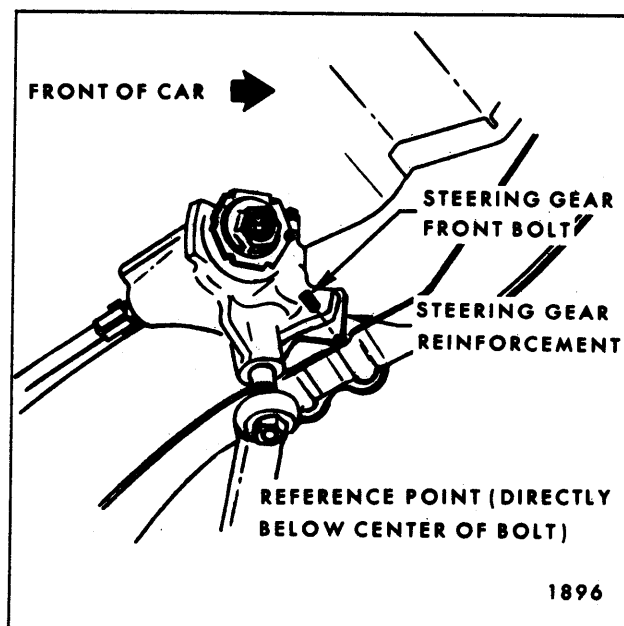
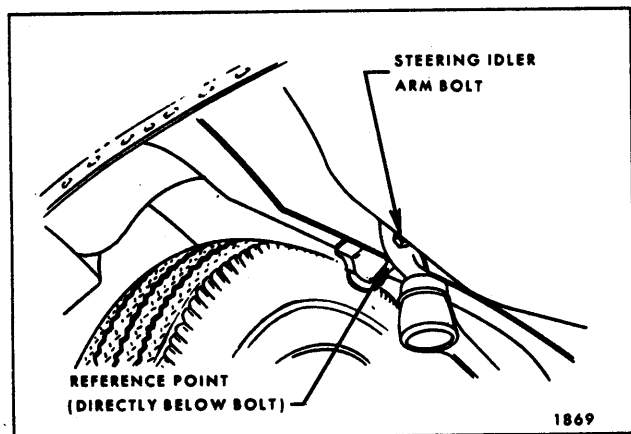

Fig. 3-4—Reference Point at Steering Gear Reinforcement
Fig. 3-5—Reference Point at Steering Idler Arm
Lower inner edge of steering gear reinforcement directly below center of steering gear front attaching bolt hole (Fig. 3-4) and lower inner edge of front compartment right side rail directly below center of steering gear idler arm support lower attaching bolt hole (Fig. 3-5).
- I 31-15/16 Lower inner edge of steering gear reinforcement directly below center of steering gear front attaching bolt hole (Fig. 3-4) and front suspension front attaching bolt hole or bolt head on opposite side of body.
- J 31-1/32 Lower inner edge of front compartment right side rail directly below center of steering gear idler arm support lower attaching bolt hole (Fig. 3-5) and front suspension front attaching bolt hole or bolt head on opposite side of body.